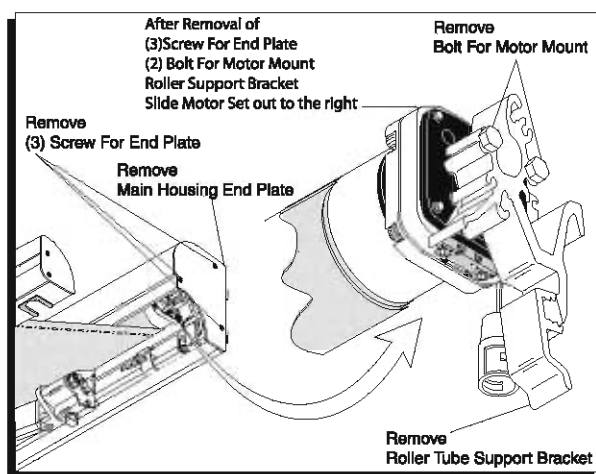

FIGURE 12
- 5) Remove the right hand/front awning end plate by removing the (3) Phillips screw, which secure it to the awning casing.(Figure 12)